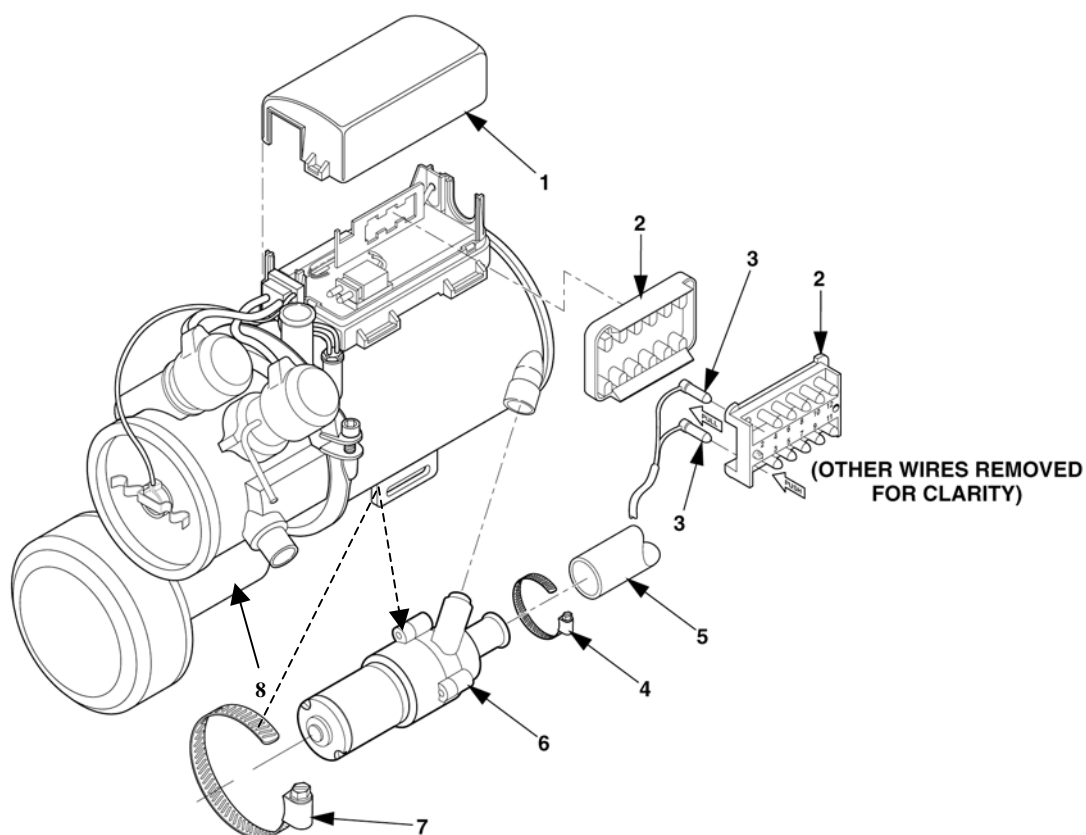

Figure 4-31. Coolant Pump Maintenance.
2. Remove electrical cover (1), Figure 4-31, and 12-pin connector (2).
3. Remove 12-pin connector (2) and push out pins (3) to coolant pump (6).
4. Remove clamp (7), attaching pump (6) to heater (8).
5. Loosen clamp (4) and remove outlet hose (5) from pump (6), using a container to catch coolant from hose.